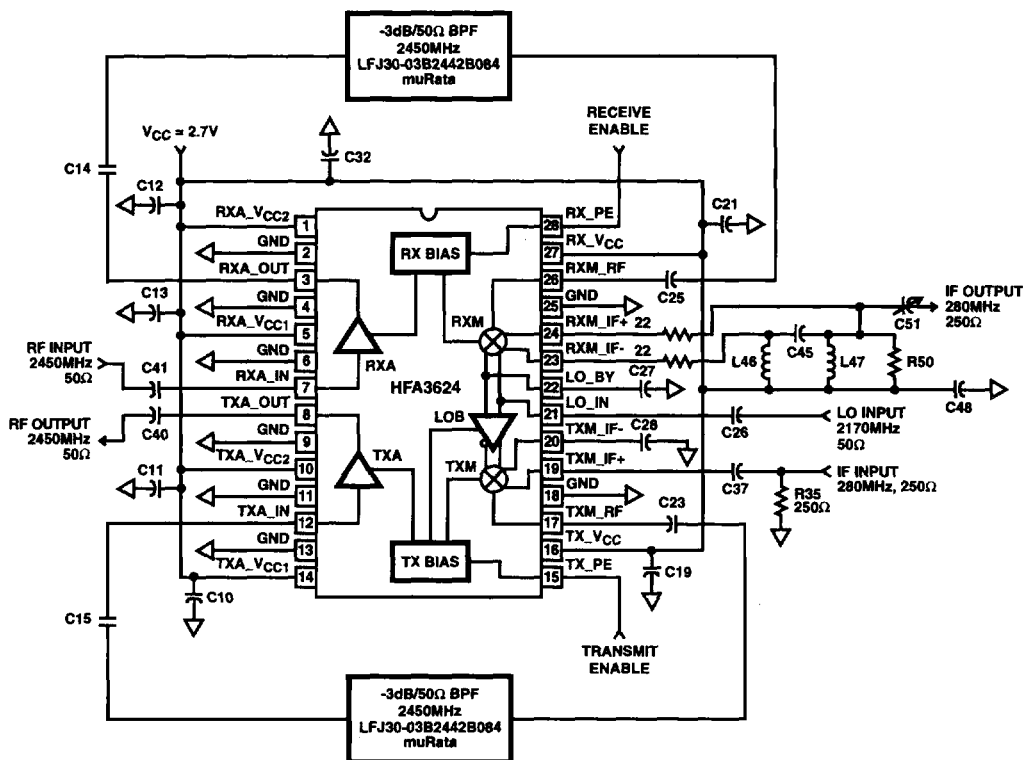

FIGURE 2. DIFFERENTIAL TO SINGLE ENDED IF OUTPUT TRANSLATION WITH 250 Ω IF IMPEDANCE
- See Figure 2 for Typical Application Circuit.